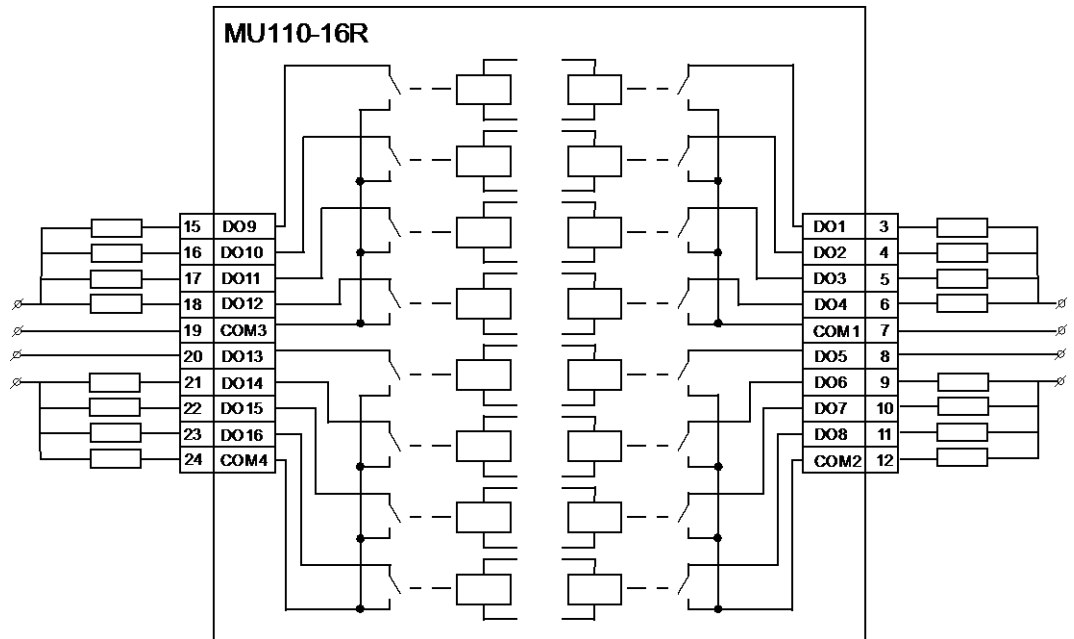

Fig. 4.2 MU110-16R outputs
- Wiring options for both types of outputs are shown on Fig. 4.2–4.3.